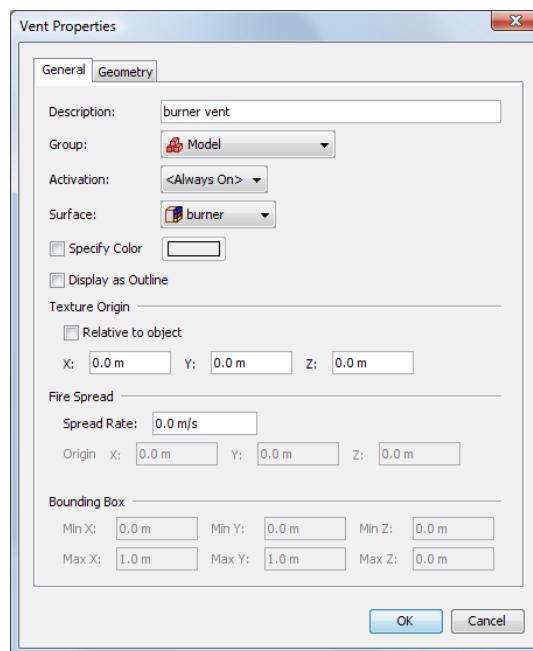

Figure 5.4. Creating the burner vent
2. In the **Description** box, type `burner vent`, Figure 5.4.